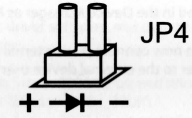

Figure 1
9. Connect the computer case's front panel Hard Disk LED cable to pin header JP4 (See Figure 1)